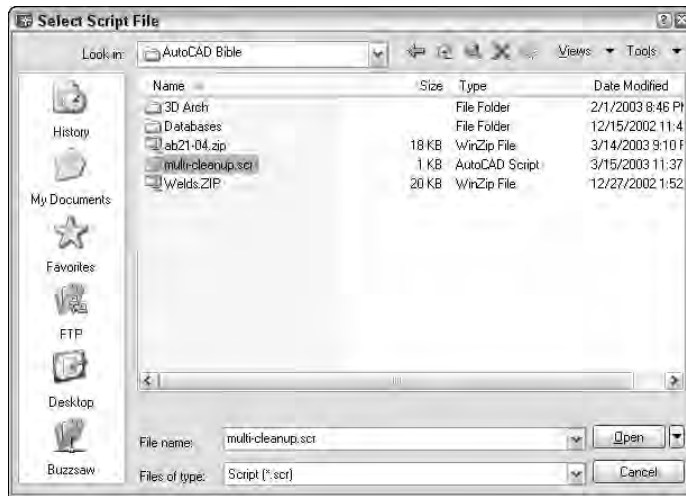

Figure 30-2: The Select Script File dialog box
1. Choose **Tools** ⇨ **Run Script**. This opens the Select Script File dialog box, as shown in Figure 30-2.